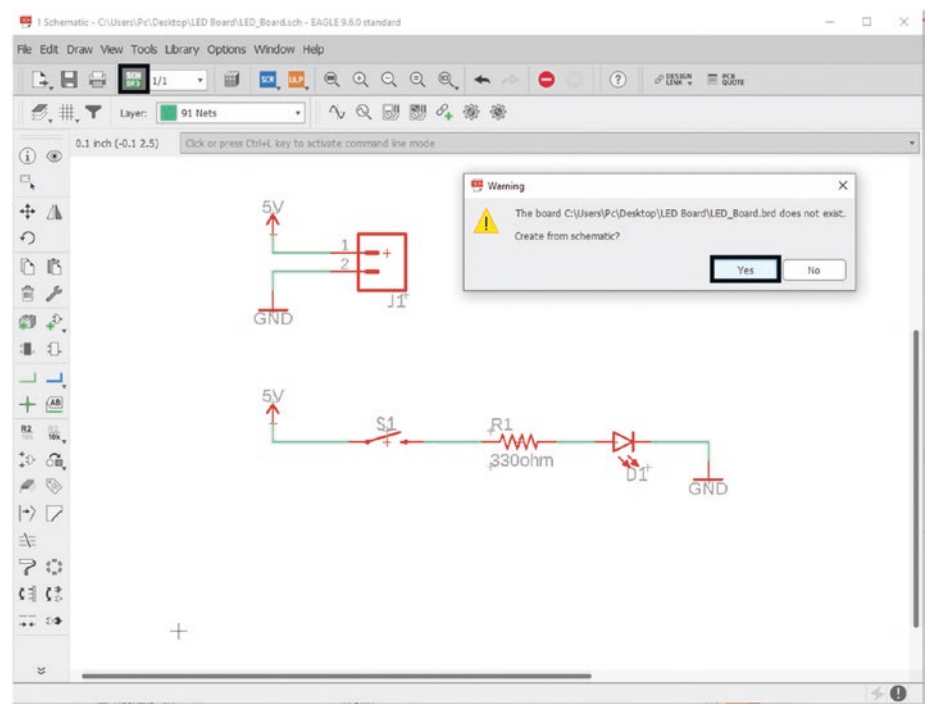

Figure 5-50. Create a *.brd file
38. The schematic is now done, but in order to create a board file for the next section, we need to click the “Generate/Switch to Board” button. A dialog will come up asking you if you would like to create a board file; click the “Yes” button. See Figure 5-50.